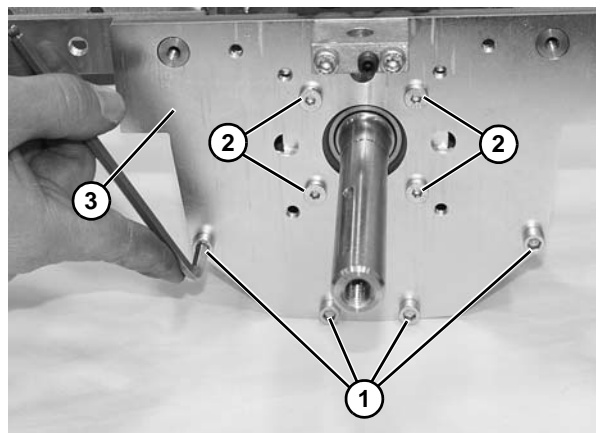

Figure 147
10. Remove four socket head screws (**Figure 147, item 1**).
11. Remove four low head cap screws (**Figure 147, item 2**) and remove side plate (**Figure 147, item 3**).